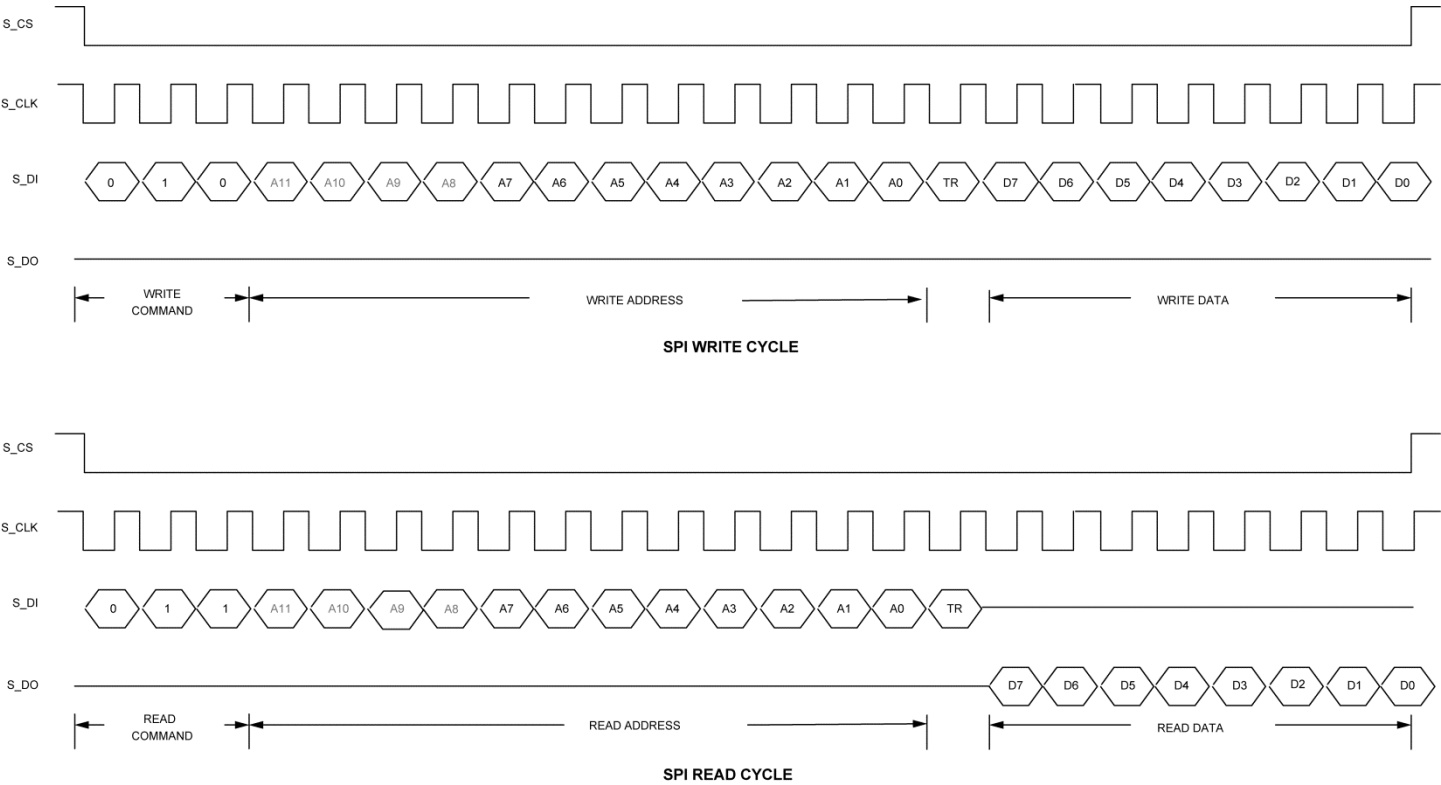
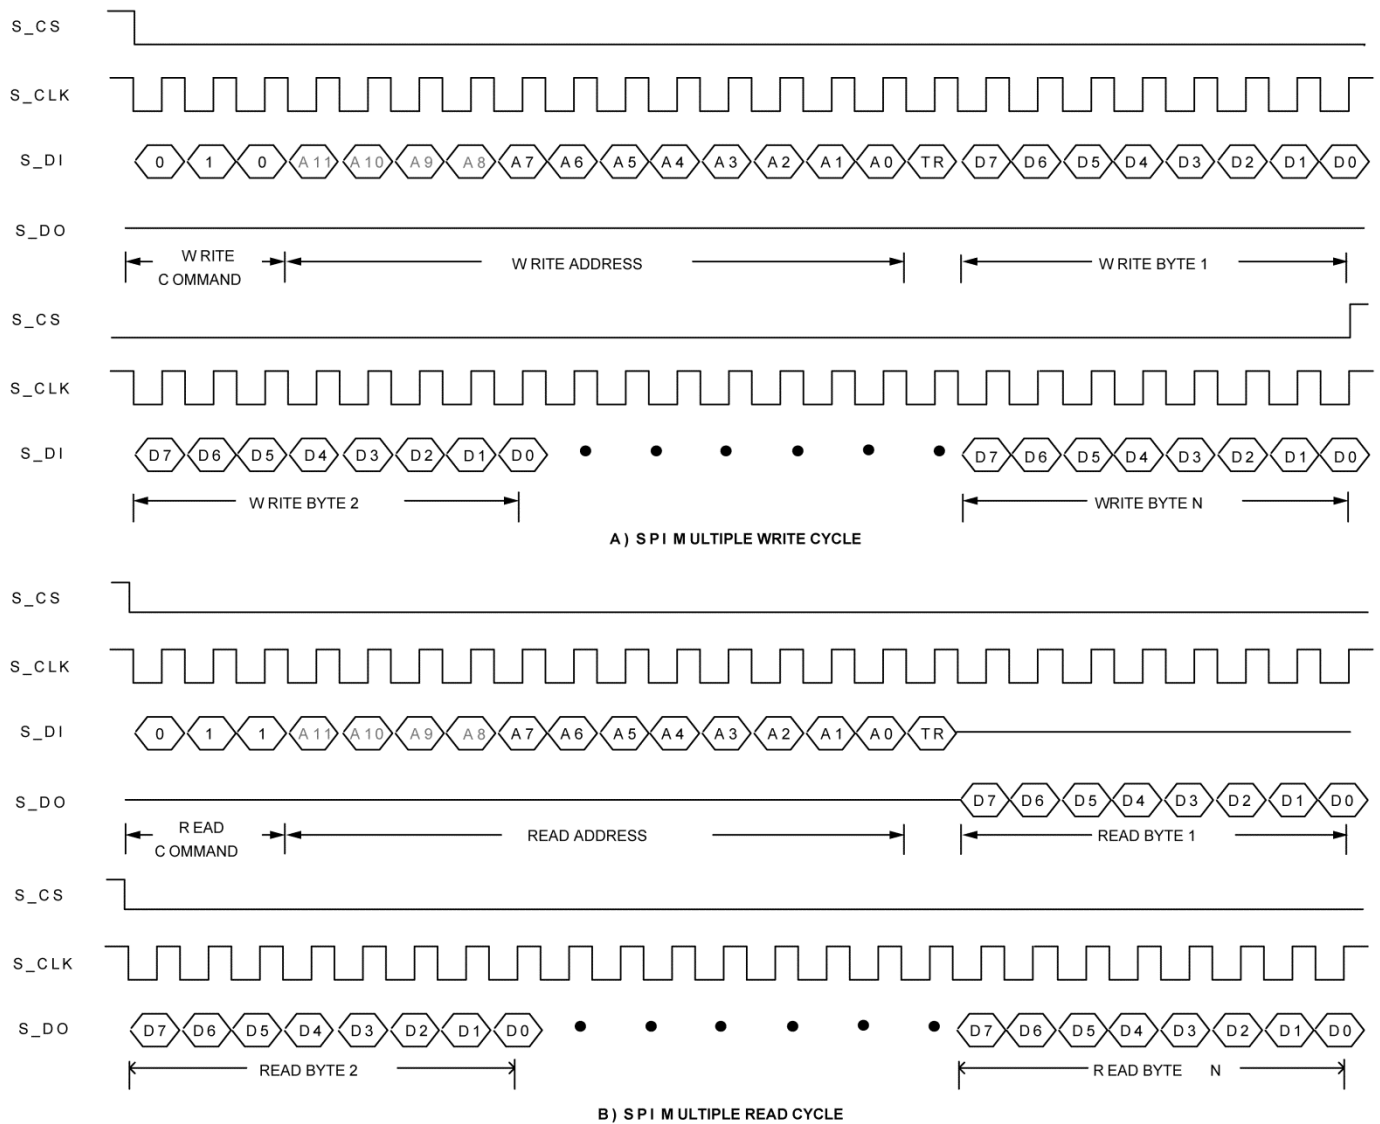

Figure 7. SPI Access Timing
Figure 8. SPI Multiple Access Timing
3. Write configuration data to registers using a typical SPI write data cycle as shown in Figure 7 or SPI multiple write as shown in Figure 8. Note that data input on SDA is registered on the rising edge of SCL clock.
4. Registers can be read and the configuration can be verified with a typical SPI read data cycle as shown in Figure 7 or a multiple read as shown in Figure 8. Note that read data is registered out of SPIQ on the falling edge of SCL clock.